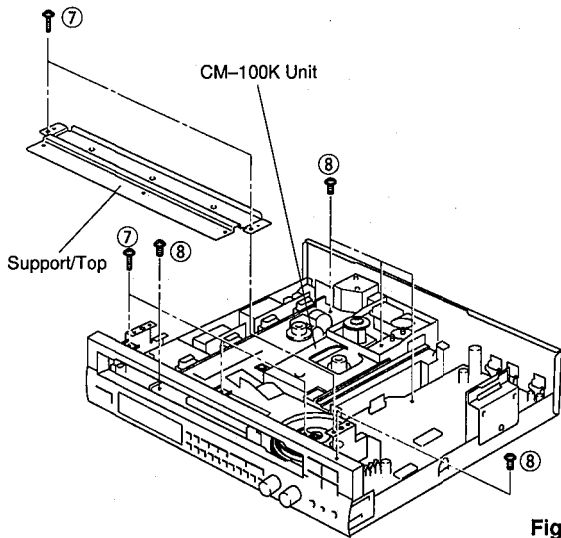

Fig. 3
- a. Remove 5 screw ( ⑦ ) and then remove the Support/Top as shown in Fig. 3.
- b. Remove 5 screws ( ⑧ ) as shown in Fig. 3.
- d. Take the CM-100K Unit out slowly as shown in Fig. 3.